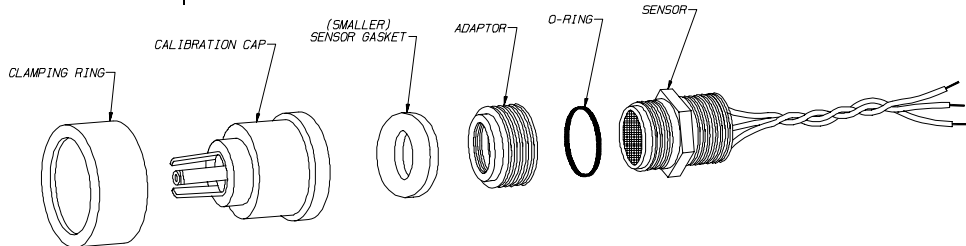

Figure 5. Ultima Gas Model Using Sensor Cap
- Use the smaller rubber sensor gasket and o-ring from this kit (FIGURE 5)
- Use the smaller rubber sensor gasket and o-ring from this kit (see FIGURE 5)